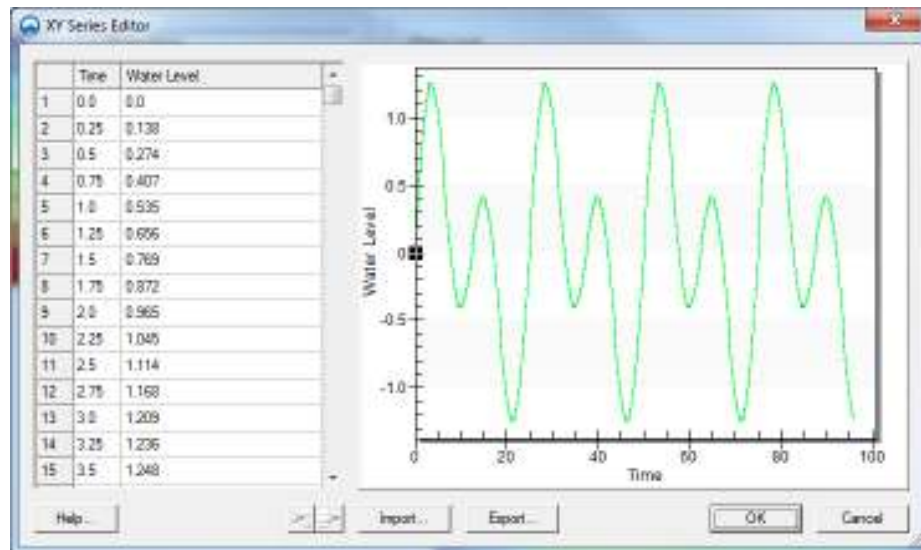

Figure 8
3. Open the *Tide.csv* file and copy and paste the values into their respective locations in the *XY Series Editor*. All data can be copied at the same time; this does not need to be done one column at a time. Figure 8 shows the *XY Series Editor* dialog. Click OK twice when done.